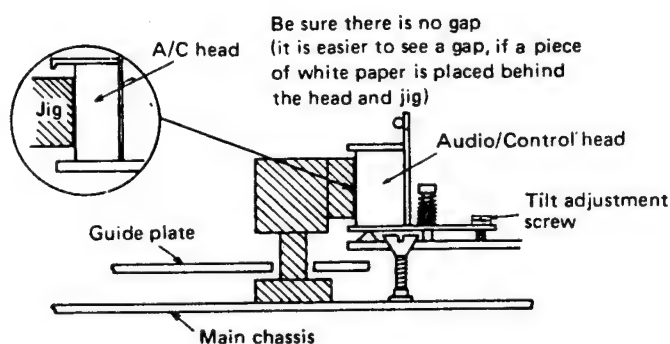

Figure 20.
2. Undo the tilt adjustment screw ⑥ with a philips screwdriver.
3. Remove the screw ⑤ (3P+8S) with a philips screwdriver.
4. Undo the audio/control head screw ④ with a philips screwdriver: pay attention to the spring between the guide plate and the audio/control head screw.
7. Adjust the audio/control head tilt angle as shown in Fig. 20.
4. Set the tilt angle of the audio/control head as shown in Fig. 20.